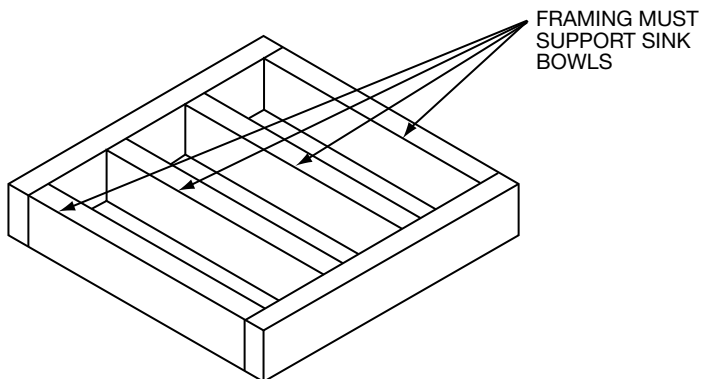

FIGURE 1
- It is **required** that a support frame be constructed inside the cabinet for adequate support of the sink as shown in Figure 1. Shim as necessary to the appropriate height.
- It is **required** that a support frame be constructed inside the cabinet for adequate support of the sink as shown in Figure 1.